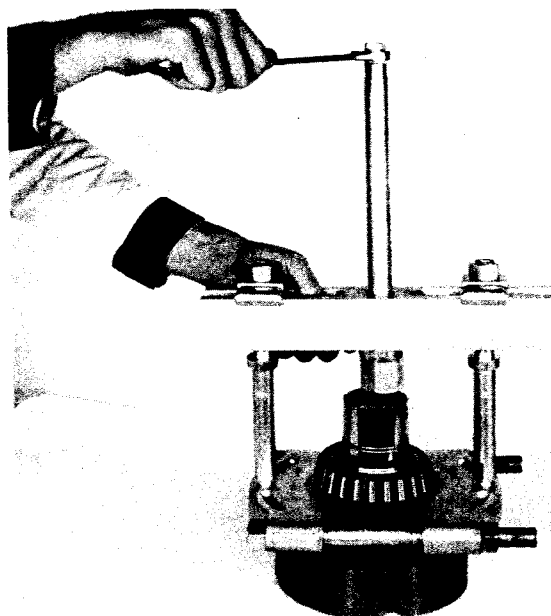

FIG. 69
5. If replacement is required, remove differential bearings with a suitable puller (Fig. 69).